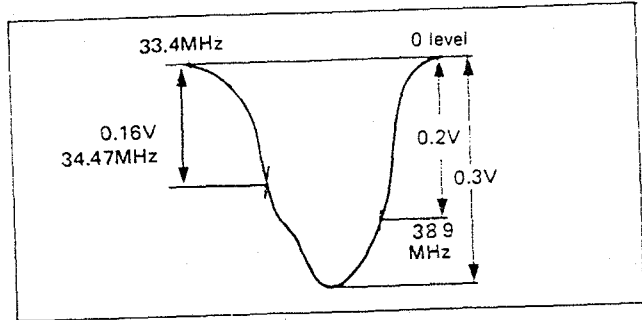

Fig. 19
1. Adjust the 34.47MHz marker with 0.16V the 38.9MHz marker with 0.2V by alternately rotating cores T101 and T103. (See Fig. 19)
2. Readjust the sweep generator output to produce a P.IF waveform; then confirm that the value of each marker is equal to that shown in Fig. 19.
1. After connecting the cables as shown above and confirming that the correct P. IF waveform exists, connect the oscilloscope input terminal to the TP-11. (See Fig. 19)